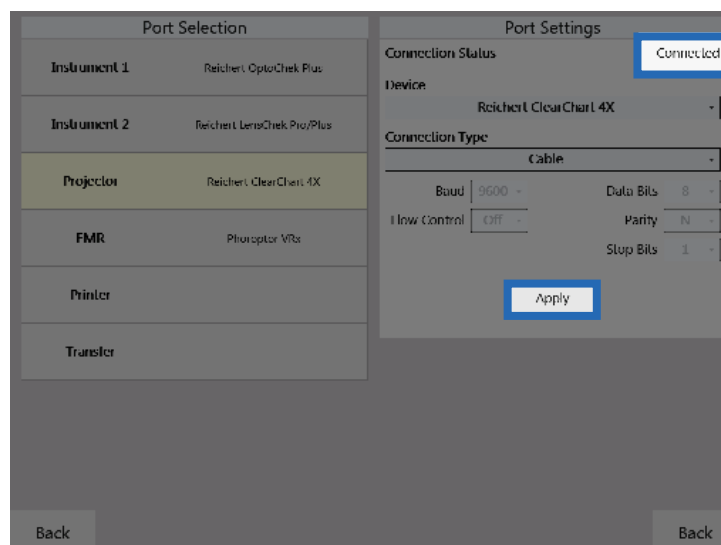

Figure IS-08, Port Settings Screen
8. Tap **Apply**. "Connected" should appear in the top right. Refer to Figure IS-08.